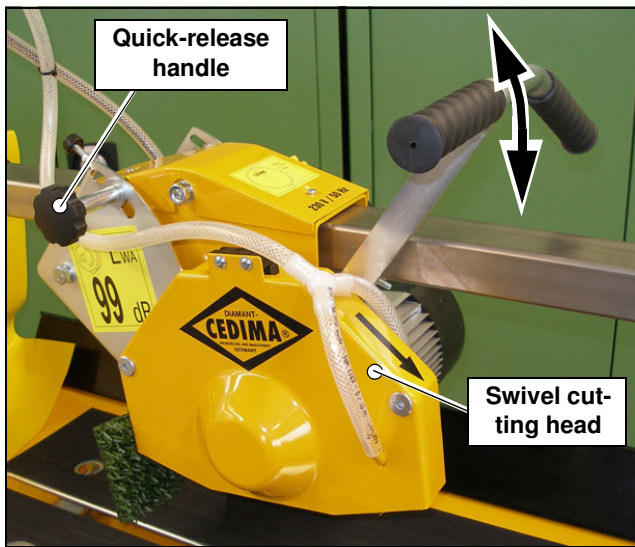

Fig. 3.9 Swivelling the swivel cutting head
- Verify that the swivel cutting head is free to move. For that purpose, loosen the quick-release handle at the cutting head (Fig. 3.9) and move the cutting head up and down!